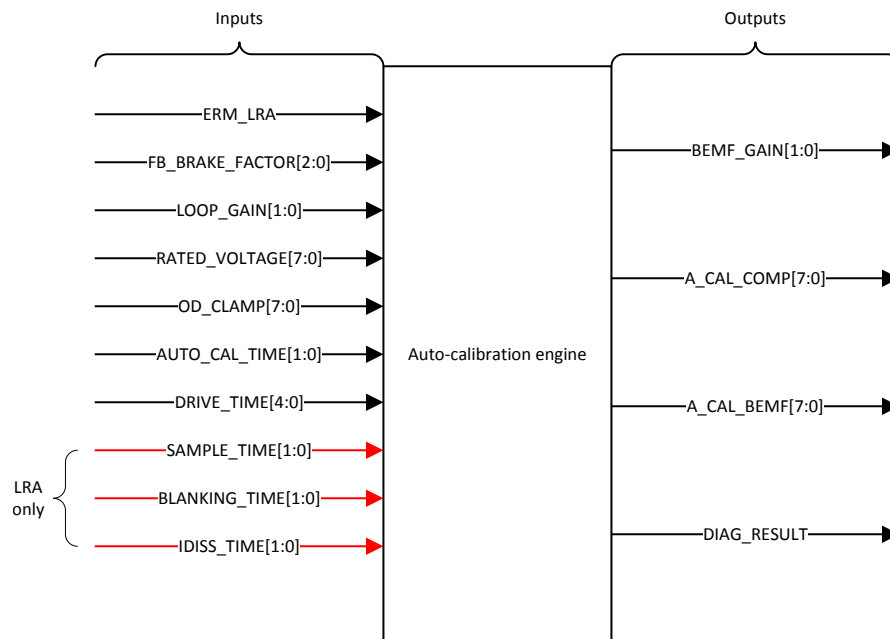

Figure 22. Calibration-Engine Functional Diagram
The calibration engine requires a number of bits as inputs before the engine can be executed (see Figure 22). When the inputs are configured, the calibration routine can be executed. After calibration execution occurs, the output parameters are written over the specified register locations. Figure 22 shows all of the required inputs and generated outputs. To ensure proper auto-resonance operation, the LRA actuator type requires more input parameters than the ERM. The LRA parameters are ignored when the device is in ERM mode.
4. Set the GO bit (write 0x01 to register 0x0C) to start the auto-calibration process. When auto calibration is complete, the GO bit automatically clears. The auto-calibration results are written in the respective registers as shown in Figure 22.